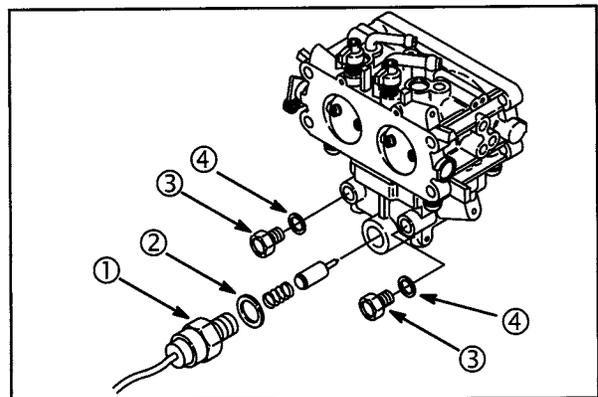

Fig. 60
1. Remove anti-afterfire solenoid (1) with washer (2), **Fig. 60**.
2. Remove fixed main jet plugs (3) with washers (4).